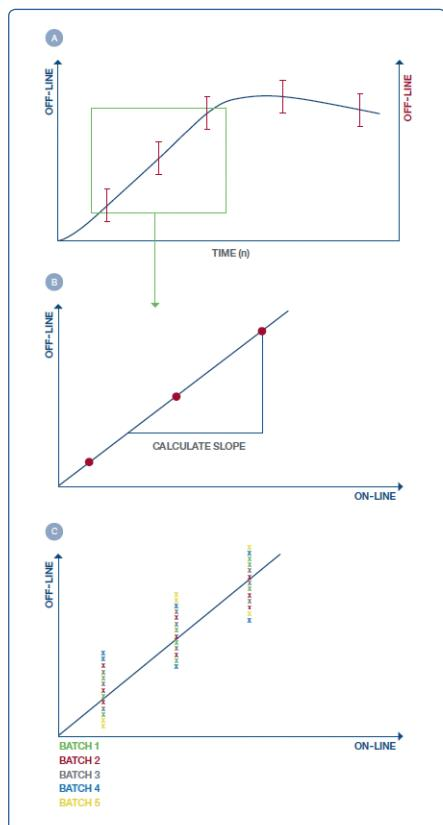

Figure 45: Linear data correlation, for one and three batches
- 2) Identify the measurements within the exponential phase (figure 45 A, green square). Plot the offline measurements of the exponential phase against the online measurements and
determine the correlation factor (figure 45 B), using the data of all three batches (figure 45 C). Calculate the slope (= cell factor).